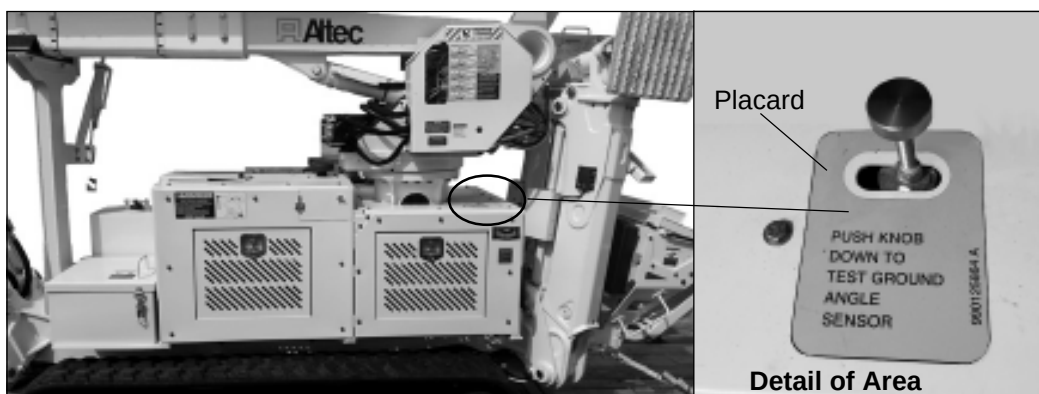

Figure 1 — Ground Angle Sensor Placard Location
- The slope alert system has been changed to have the tilt sensor signal and high speed track motion lockout activate at a lower angle of tilt. This change will help reduce the possibility of tipping the unit when operating over rougher ground. Look at the top of the carrier on the curbside for the knob and the Ground Angle Sensor Test Placard, part number 990125864 (refer to Figure 1). If that placard is NOT on the unit, order Tilt Sensor Assembly Kit, part number 990141011.